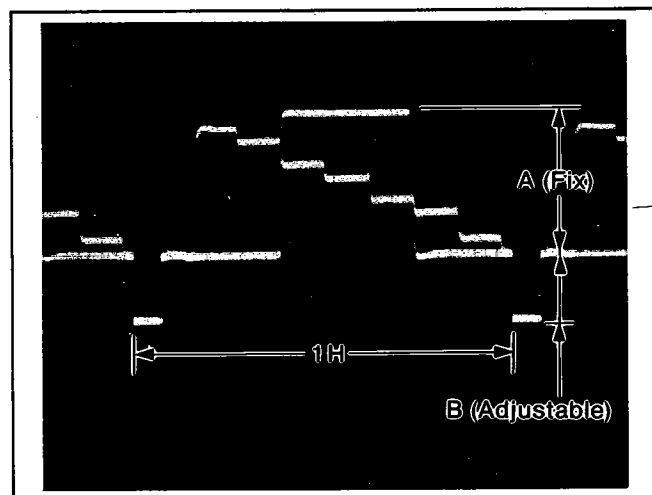

Figure E26
4. Adjust VR9001 until the A level is $40 \pm 2\%$ of the B level. See Figure E26.